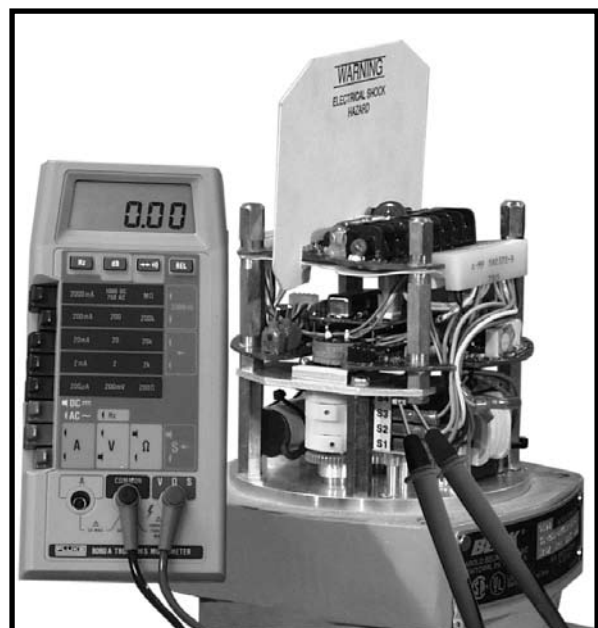

Figure 6
- b. For drives with Option 3, remove the cable tie holding the switch wires, remove the two wires from the CCW limit switch (second from the top), and attach the meter across these contacts. See Figure 6. Rotate the cam until the meter shows no continuity (switch contacts open, switch clicks).
- b. For drives with Option 3, remove the cable tie holding the switch wires, remove the two wires from the CW limit switch (top switch), and attach the meter across these contacts. See Figure 6. Rotate the cam until the meter shows no continuity (switch contacts open, switch clicks).